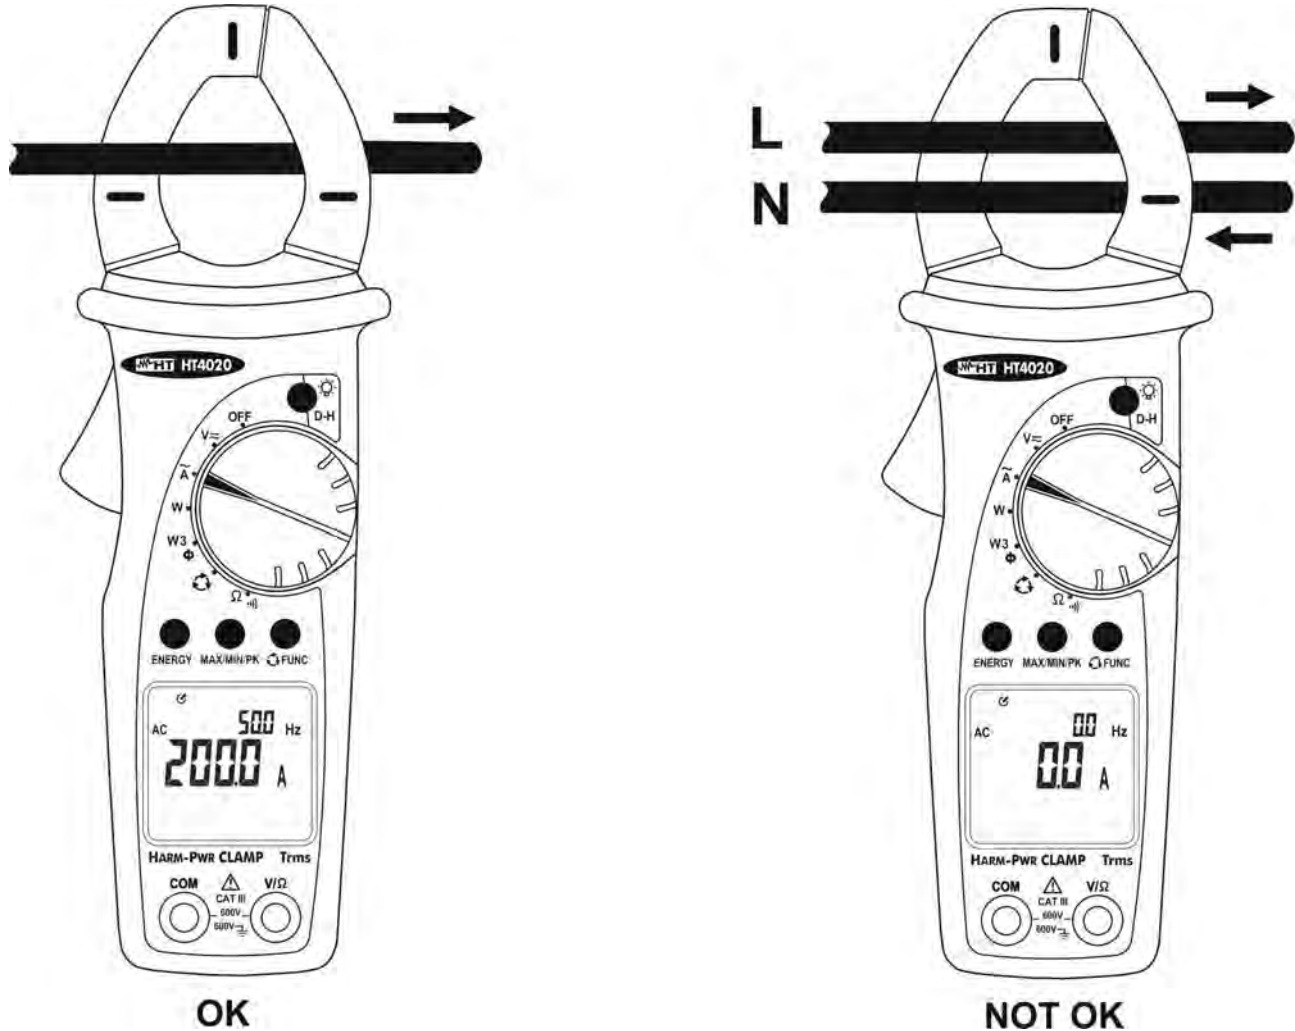

Fig. 8: Use of instrument for AC current measurements
2. Open the jaws and clamp only one cable. Pay attention to the alignment marks (see § 4.1.2. and Fig. 8). The values of current and frequency are shown on the main and secondary displays.